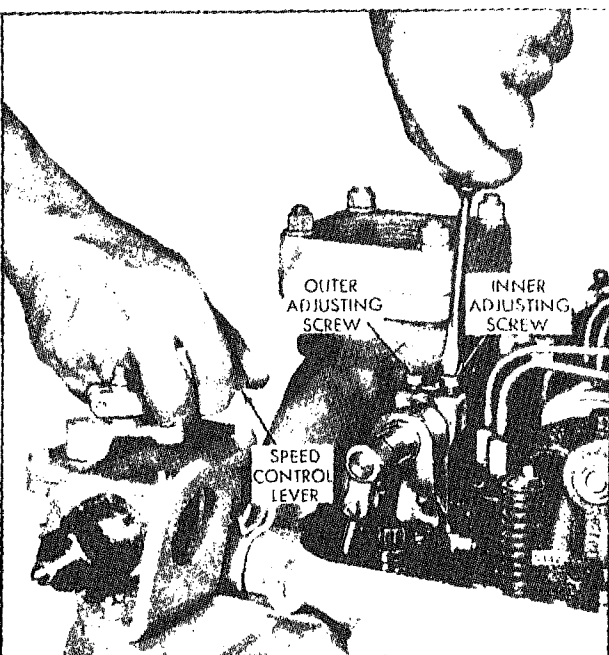

Fig. 2 - Positioning the Rear Injector Rack Control Lever
2. Loosen all of the inner and outer injector rack control lever adjusting screws (Fig. 2). Be sure all of the levers are free on the injector control tube.